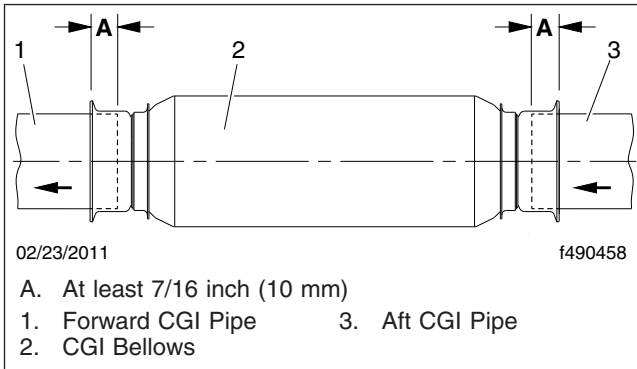

Fig. 9, CGI Bellows Installation
12. Slide the new bellows onto the aft CGI pipe as far as it will go. See **Fig. 9**, Ref. A. Measurement A should be at least 7/16 inch (10 mm) past the face of the flange.
16. Using the yellow marks, center the bellows between the exhaust pipes. Verify that the pipe is inserted at least 7/16 inch (10 mm) past the face of the flange. See **Fig. 9**, Ref. A.